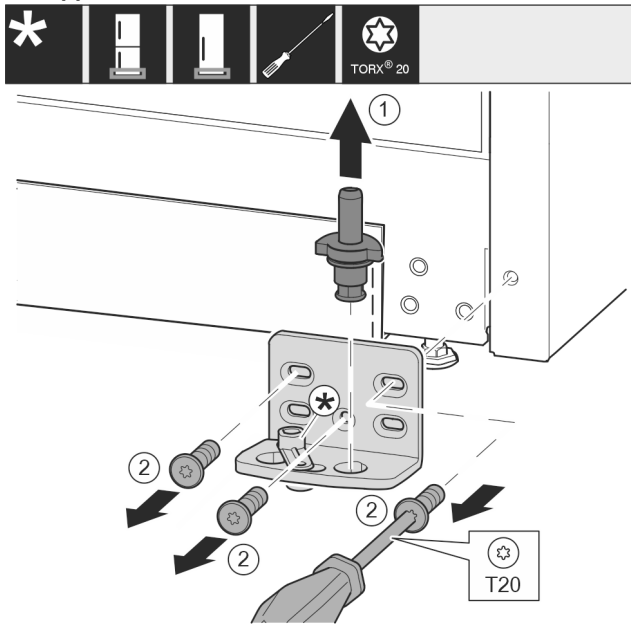

Fig. 10
- Lift the bearing pin completely upward and pull it out. Fig. 10 (1)
- Take out the screws with a T20 screwdriver and take off the bearing bracket. Fig. 10 (2)